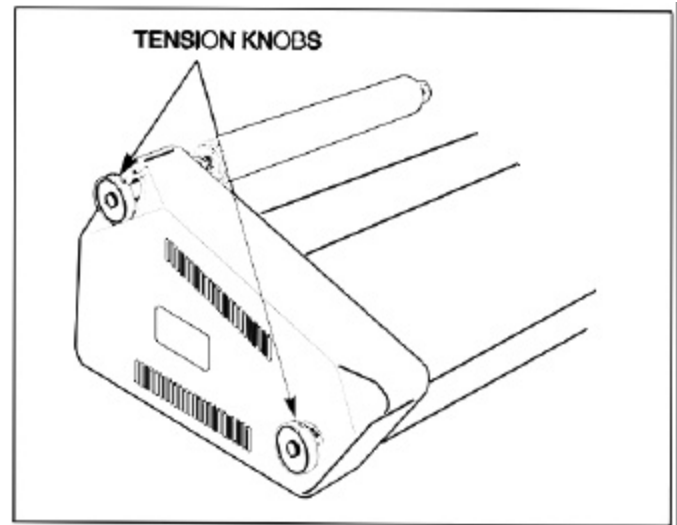

Fig. 22
1. The machine is equipped with external tension knobs located on the left side, (Figure 22). Turning the knobs clockwise increases the tension while counterclockwise decrease the tension.